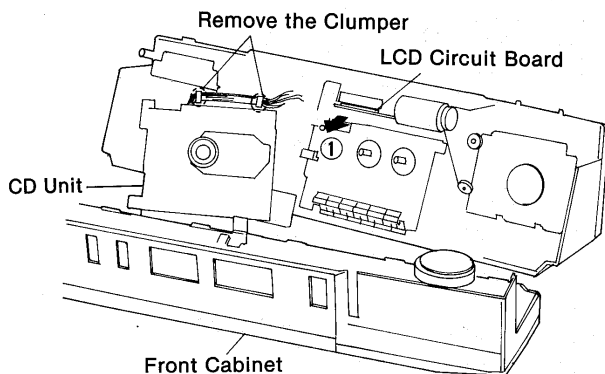

Fig. 1
1. Following the order of removal in the disassembly procedure step 1~6, remove the front cabinet. (Fig. 1)
2. Pull out the LCD circuit board in the direction of the arrow, and remove the CD unit. (Fig. 1)
4. Remove the two lead clamps and remove the lead wires from the holder. (Fig. 1)